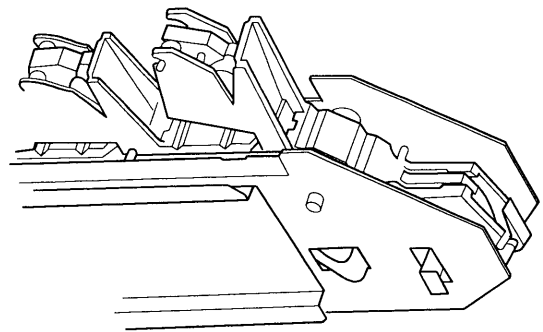

Figure 14
6. With the detent spring engaged in one of the detents, the leading chain segment should be in the position shown (figure 14), if the timing is correct.